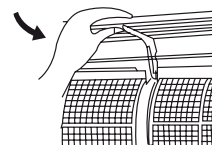

Fig. 6b
- The arm at the center of the front panel slides into the groove at the front of the unit. (Fig. 6b)